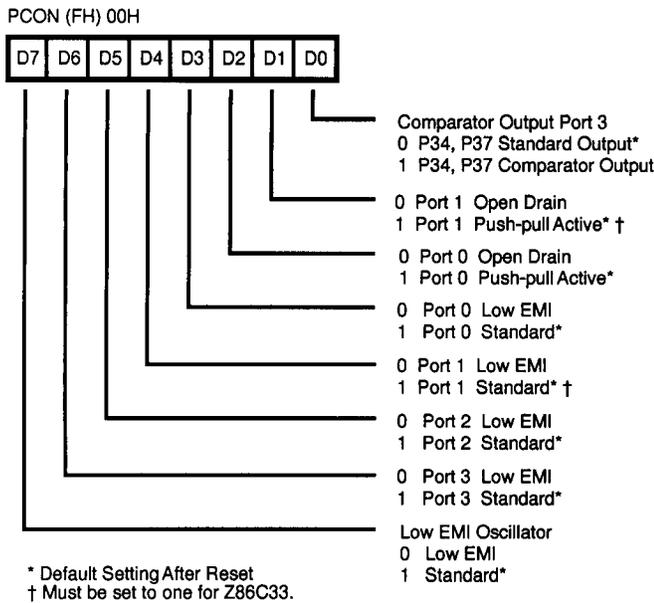

Figure 25. Port Configuration Register (PCON) (Write Only)
**Port Configuration Register (PCON).** The PCON register configures the ports individually; comparator output on Port 3, open-drain on Port 0 and Port 1, low EMI on Ports 0, 1, 2, and 3, and low EMI oscillator. The PCON register is located in the expanded register file at Bank F, location 00 (Figure 25).